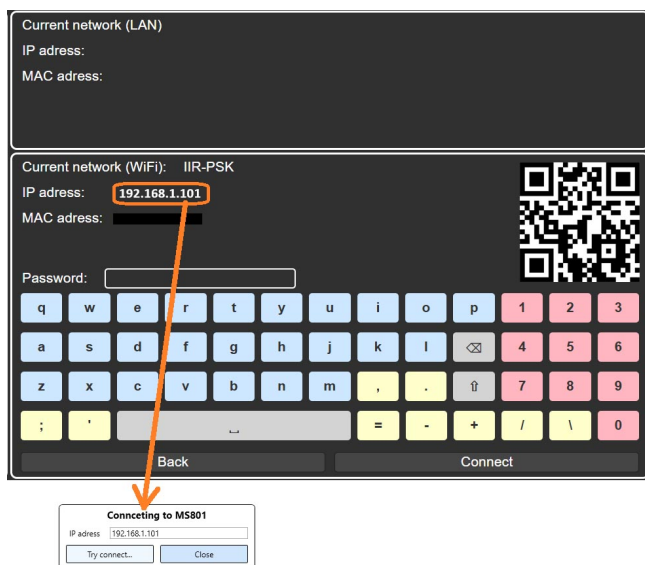

Figure 26
3. Next, click the “Connect to MS801” button – a connection window will appear, where you need to enter the **IP address** of the tester (see Figure 26). The IP address can be found on the tester in the **Network Setting** menu.